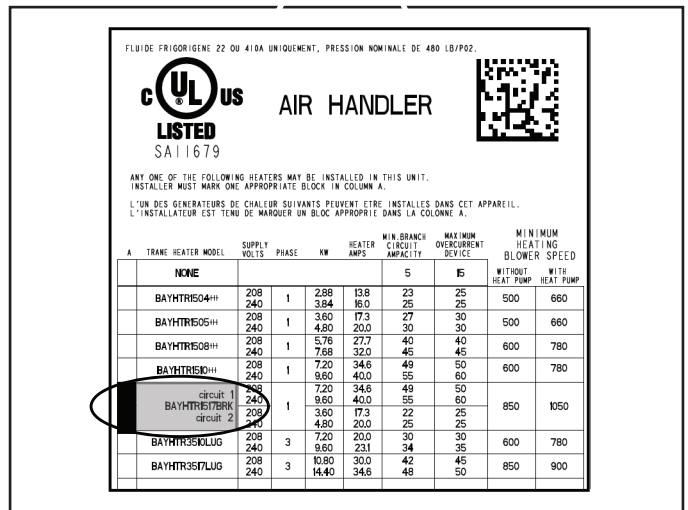

Figure 6 - New Label shown in place
17. On the unit nameplate, check off the heater that has been installed or apply the new secondary nameplate label within the heater data table on the air handler nameplate as shown in Figure 6.